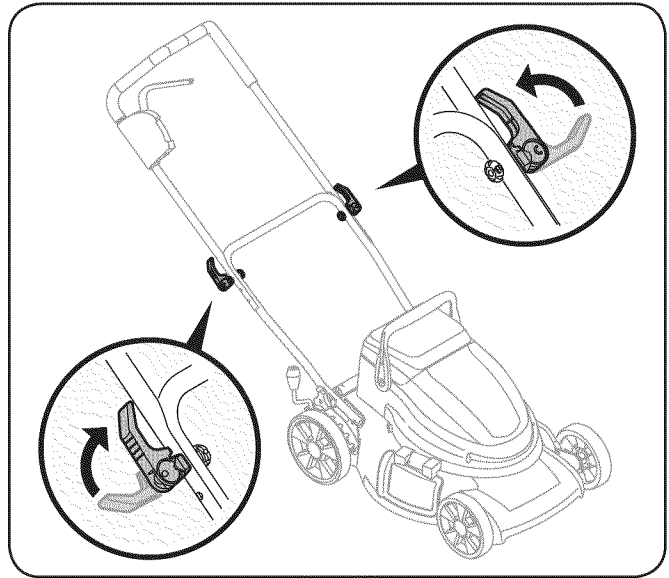

Figure 3-4
5. Tighten the clamps. See Fig. 3-4.